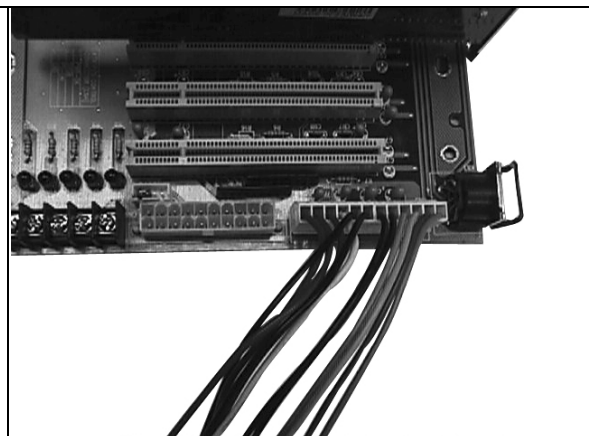
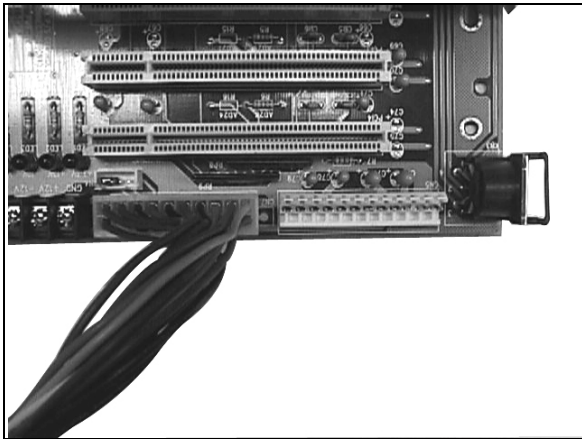
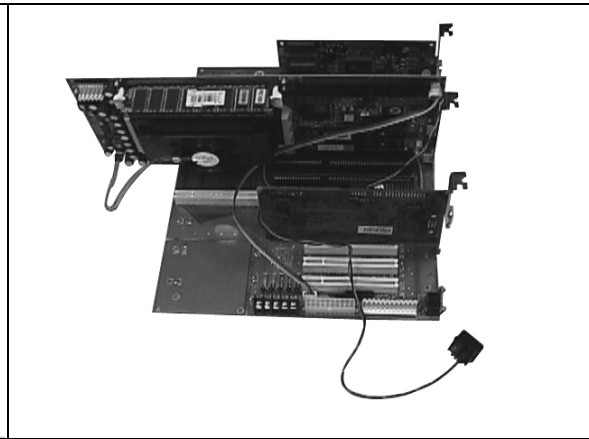

Fig. 2
Fig. 3
Fig. 4
1. If you use AT power supply, please apply the P8/P9 connector over CN5 (**Fig. 2**). If you use ATX power supply, please apply the 20-pin ATX power connector over CN4 (**Fig. 3**). Besides, you need to apply one 4-pin ATX power control cable between your SBC and backplane over the 4-pin header CN7. (A toggle switch is required over your SBC for this application, **Fig. 4**).